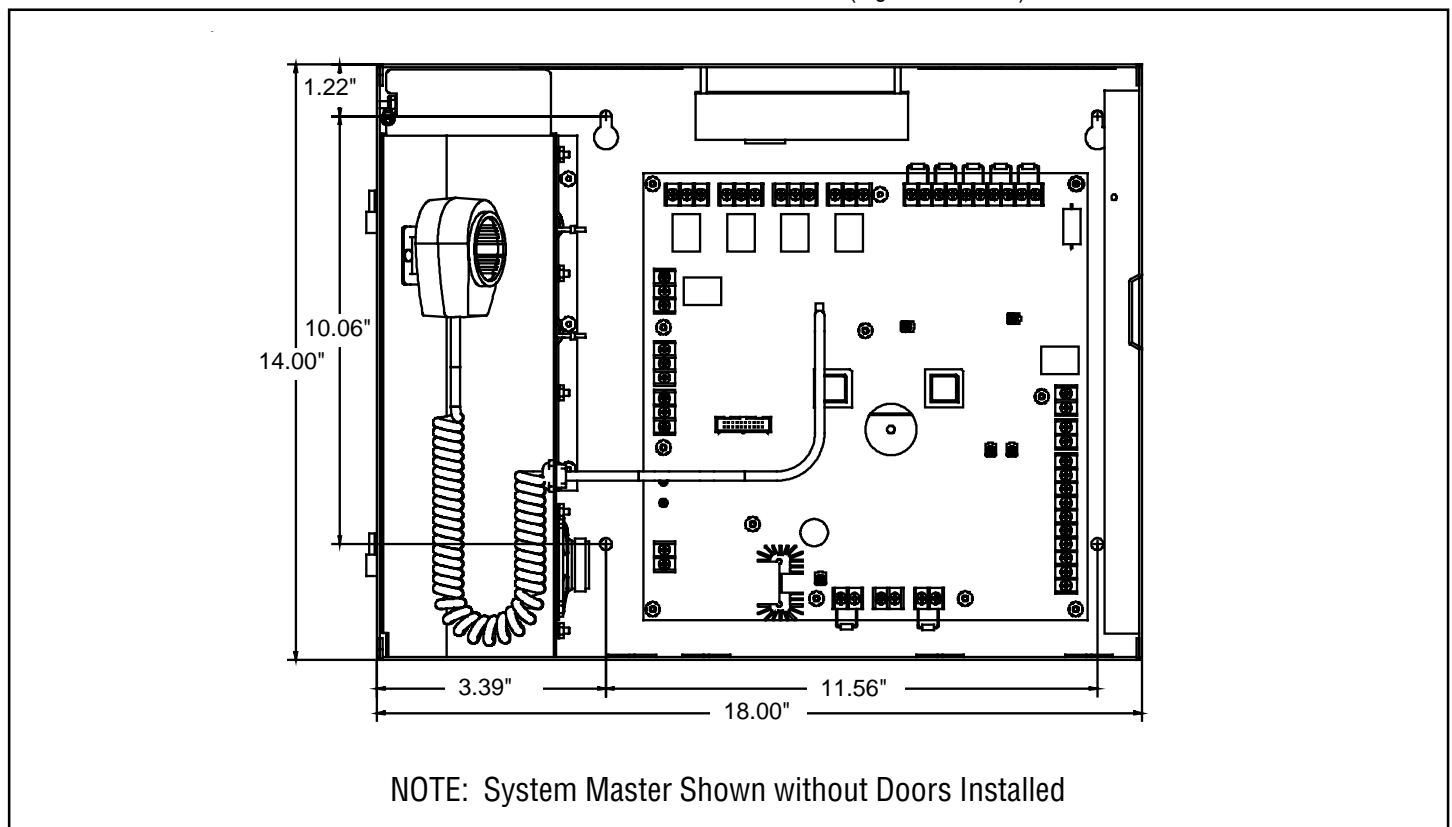

Figure 2. Panel Dimensions
Cabinets can be surface mounted or semi-flush mounted. See Figure 2 for framing and mounting dimensions.
2. Fasten the cabinet to the wall surface where indicated in Figure 2 using (4) 1/4" x 2" lag screws for wood, (4) 1/4" x 1" sheetmetal screws for steel, or (4) 1/4" x 2 1/4" wedge anchors for cement.